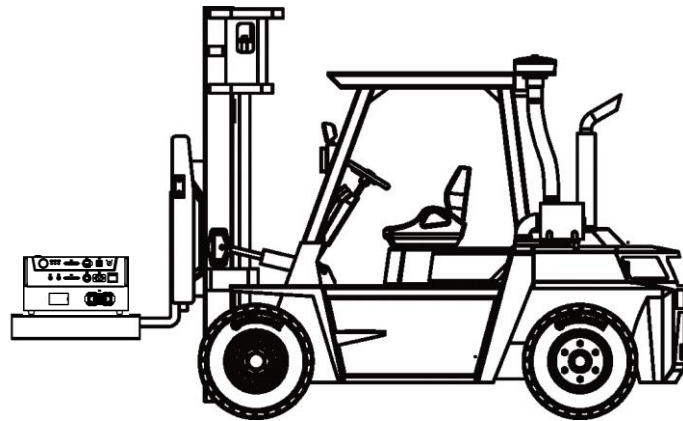

Figure 3-1 Schematic diagram of control cabinet transportation by forklift
- A transportation tray should be provided under the control cabinet during transportation, as shown in Figure 3-1.